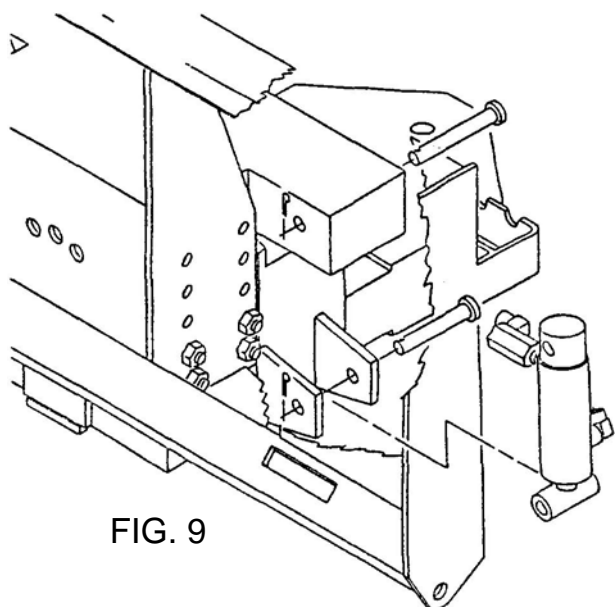

FIG. 9
- (3) Attach the hydraulic tilt cylinders to the swivel weldment use (2) $1 \times 4 \ 1/2$ " clevis pins and $3/16 \times 1 \ 1/2$ " cotter pins. Attach the tilt cylinder rod ends to the subframe use (2) $1 \times 4 \ 1/2$ " clevis pins and $3/16 \times 1 \ 1/2$ " cotter pins. See FIG. 9